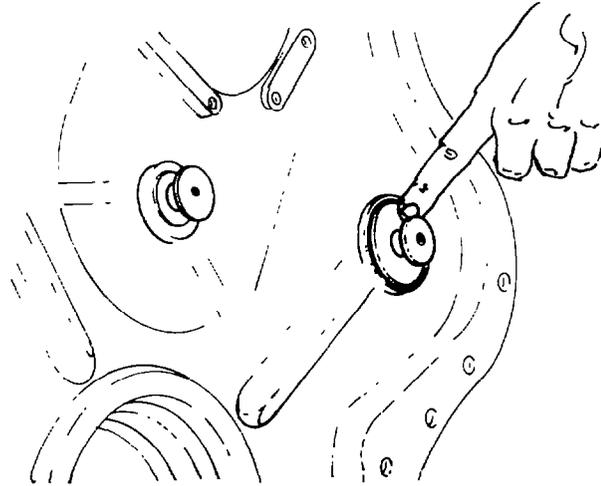

Fig. 87 — Installing Thrust Buttons
- b. Fit the thrust buttons for the camshaft and auxiliary shaft to the inside of the cover; fit the adjusting bolts and locknuts to the buttons, then adjust the buttons to the fully retracted position so that the buttons butt against the inside of the cover (see fig. 87).